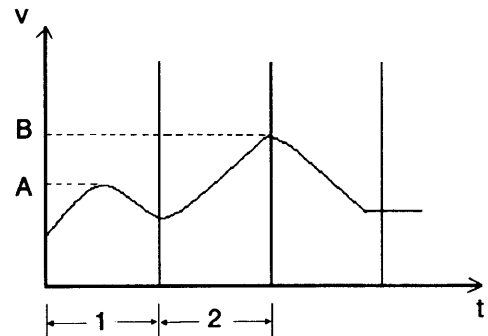

Fig. 1.10
1) Peak-hold ----- In the peak-hold processing, the peak level of signal is detected at regular intervals. If for example, there is a signal shown in Fig. 1.10 and if the signal is sampled at regular intervals, the level "A" is taken out in the period "1" and level "B" in the period "2" in order to prevent the signal from being missed due to a low signal level at a sampling point.